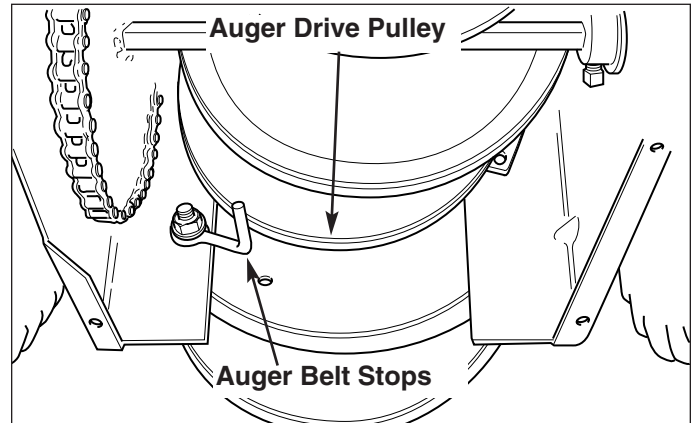

Figure 30. Auger Drive Pulley and Belt Stops
8. Loosen hex screw securing belt stop (Figure 30), and pivot the belt stop away from the pulley to permit removal of belt.